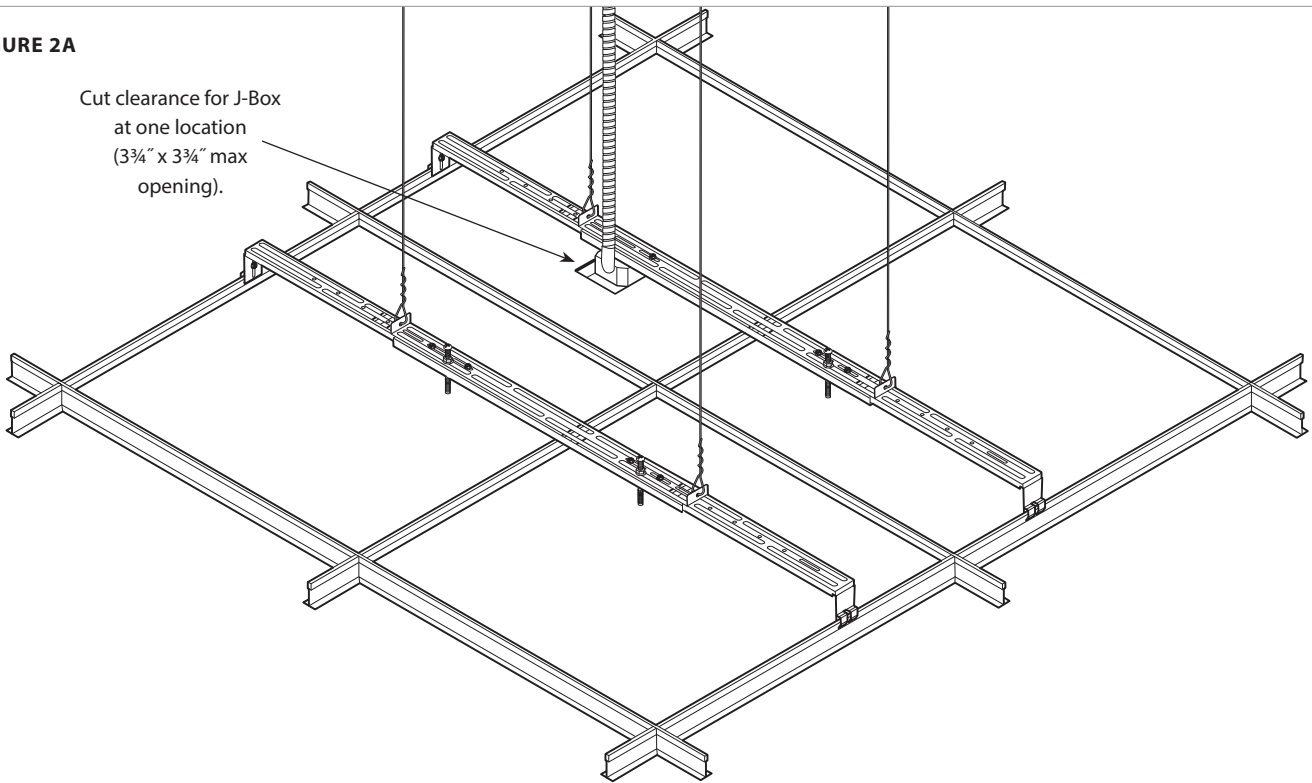

FIGURE 2B
8. Adjust fender washers against back of ceiling tile to prevent movement (Figure 2B).